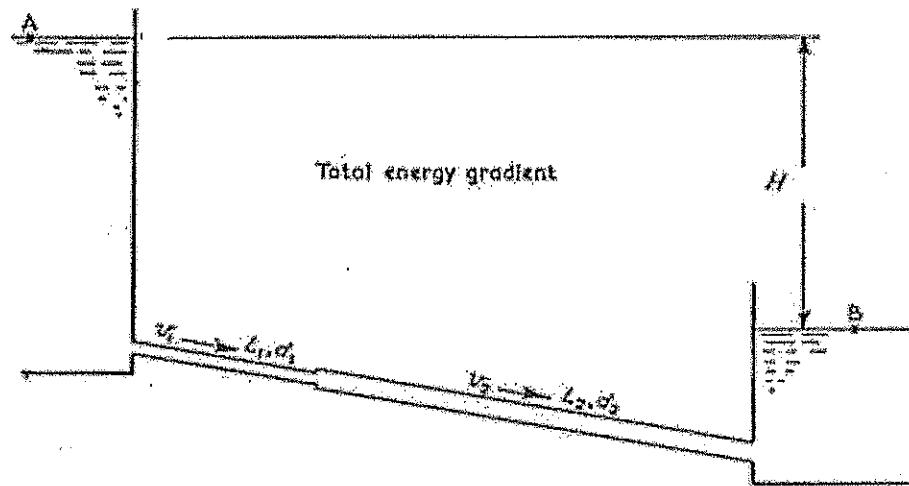

Figure 3/ Rajah 3
- b) Two reservoir as shown in Figure 3 are connected by a pipeline which is 150 mm in diameter for the first 6 m and 225 mm diameter for the remaining 15 m. The entrance and exit are sharp and the change of section sudden. The water surface in the upper reservoir is 6 m from bottom. Friction coefficient for both pipe is 0.01.